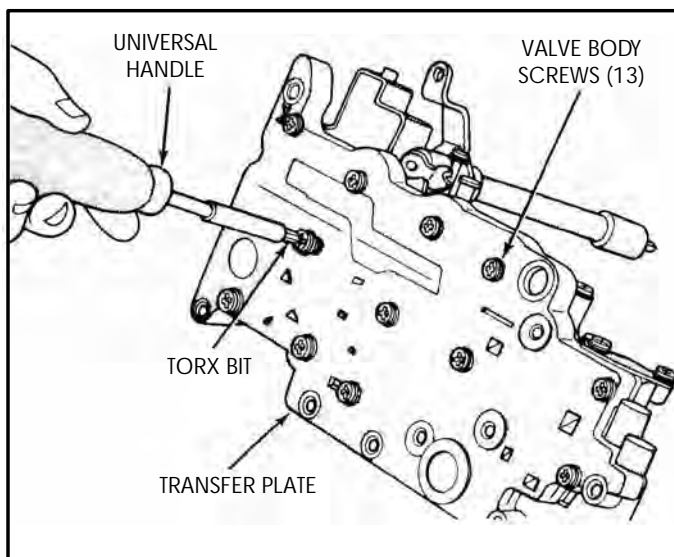

Figure 91
2. Remove valve body to transfer plate retaining screws, as shown in Figure 91.